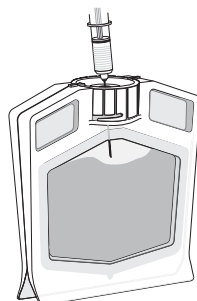

Figure 9 Add air to the cassette.
1. Penetrate gasket with the needle through the cap and slowly inject air into the sample chamber to the maximum allowed sample volume. This will also help separate the membranes and prevent accidental membrane needle puncture (Figure 9).